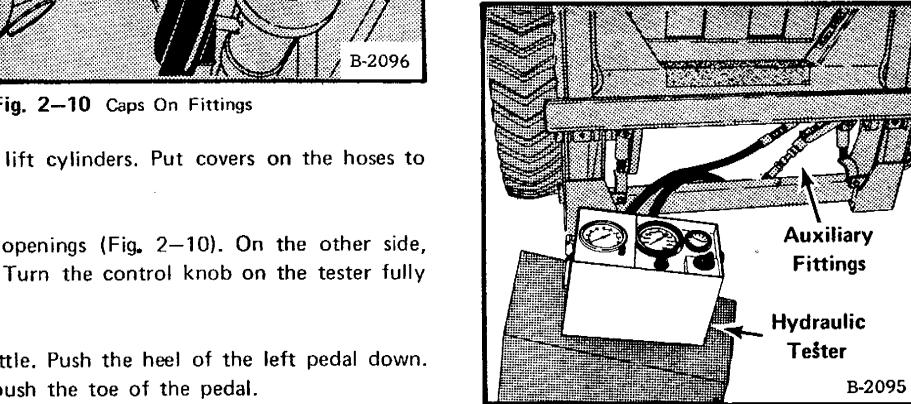

Fig. 2-12 Checking Auxiliary Hydraulics
(1) Connect the tester to the auxiliary fittings (Fig. 2-12). Turn the control knob fully counterclockwise.
(2) Start the machine and run at full throttle.
(3) Push the toe of the auxiliary pedal. If there is no flow indication press the heel of the pedal.
(4) Turn the control valve on the tester full clockwise. Read the release pressure on the gauge (See Section 8 for pressure specifications).